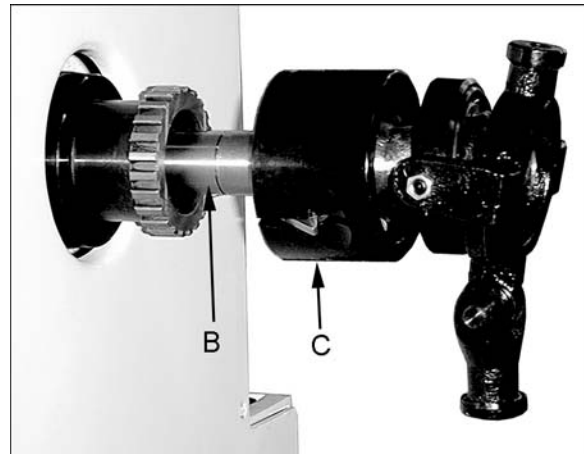

Figure 3
8. Thread the drawbar (B, Figure 3) into the collet closer assembly (C, Figure 3) until it is flush with the assembly.